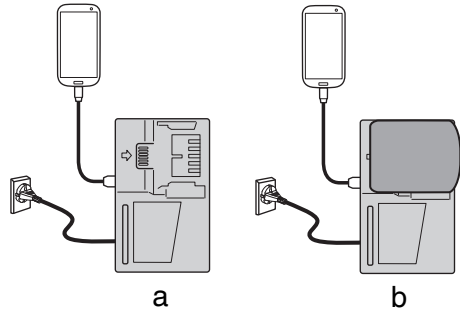

Fig. 30
- Charging a USB device from a electrical outlet (**Fig. 30-a**).
- Charging a USB device and battery from a electrical outlet. (**Fig. 30-b**)